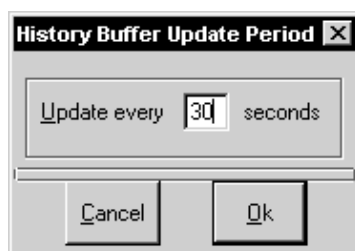

Figure 7-18. History Buffer Update Period Window
1. From the Display and Control window, select **Options>Smoke History>Sample Rate**. The History Buffer Update Period Window opens, as shown in Figure 7-18.